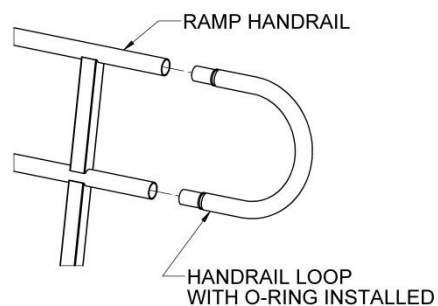

FIG. 4.8
- 4.4.5. Install loop into ramp handrail by pushing loop into handrail as far as it will go (FIG. 4.8).